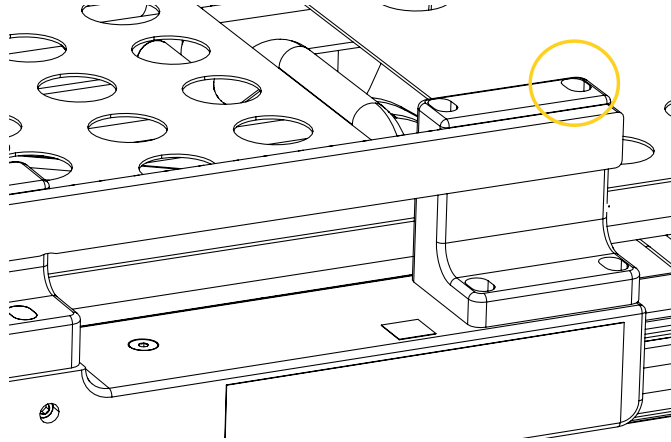

Figure 46: Tightening the screw on top of the XTPA-PPXT Rail System
15. Tighten the last previously inaccessible screw located on the top of each rail using a $\frac{3}{16}$ in. hex key (Figure 46).